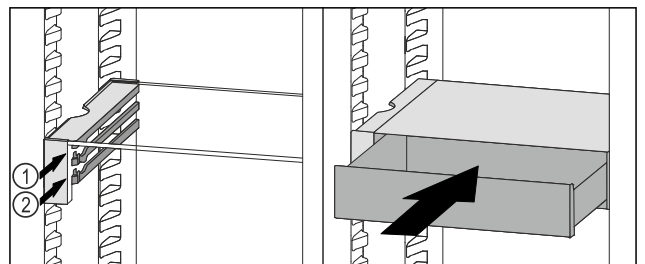

Fig. 107
- Place the VarioSafe drawer behind the stoppers on desired rib Fig. 107 (1) or Fig. 107 (2).